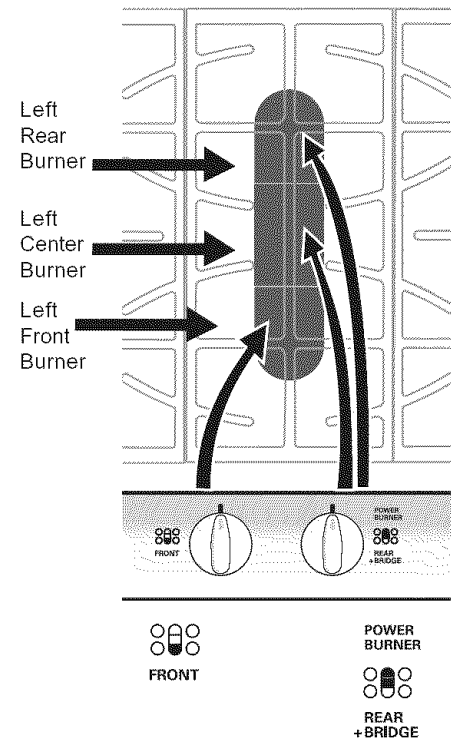

Fig. 1
The middle rear and middle center Burners are controlled by the **Rear +Bridge Burner Control Knob**. The front portion of the Bridge Burner may be added to complete the entire Bridge Burner using the **Front (center) Control Knob** (See Fig. 1).
1. Push the **Rear +Bridge Burner** control knob in and turn **counterclockwise** out of the OFF position (See Fig. 1).
2. Release the knob and rotate to the **LITE** position (See Figs. 1 & 2). Note: All electronic surface igniters will spark at the same time. However, only the selected surface Burner will lite.